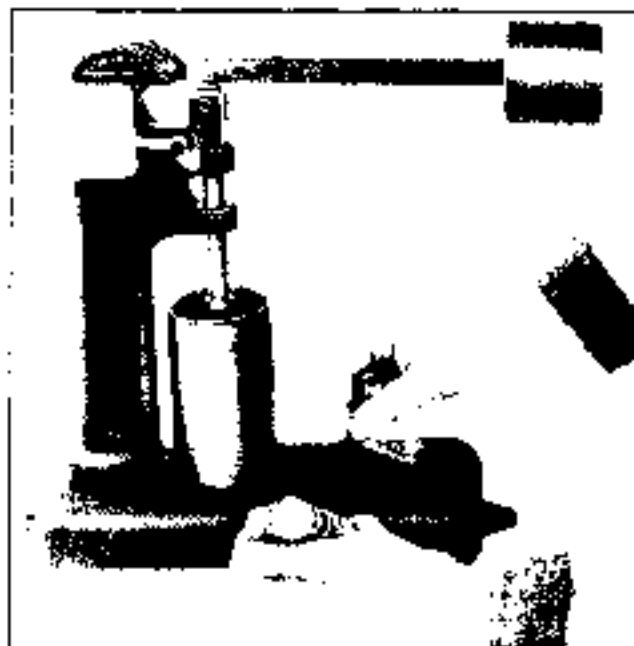

Fig. 6-25 Testing Leak-Down Rate
After all lifters have been assembled, the leak-down rate must be checked before they are installed in the engine. Valve lifter leak-down tester J 5790 (Fig. 6-25) is designed to test leak-down rate of lifters to determine whether or not they are within specified limits. As with previous service operations concerned with lifters, cleanliness is important. The tester cup and ram should be thoroughly cleaned, and testing should be done in an area free of dust and dirt. The testing procedure is described in the following steps:
5. Raise weight arm to allow plunger spring to expand fully; lower arm onto ram and commence turning crank slowly (1 revolution every 2 seconds). Time indicator travel from lower line (first line above set line) to line marked .125 or 1/8". While still rotating cup with crank (Fig. 6-25). Lifter is satisfactory if rate is between 20 and 90 seconds.